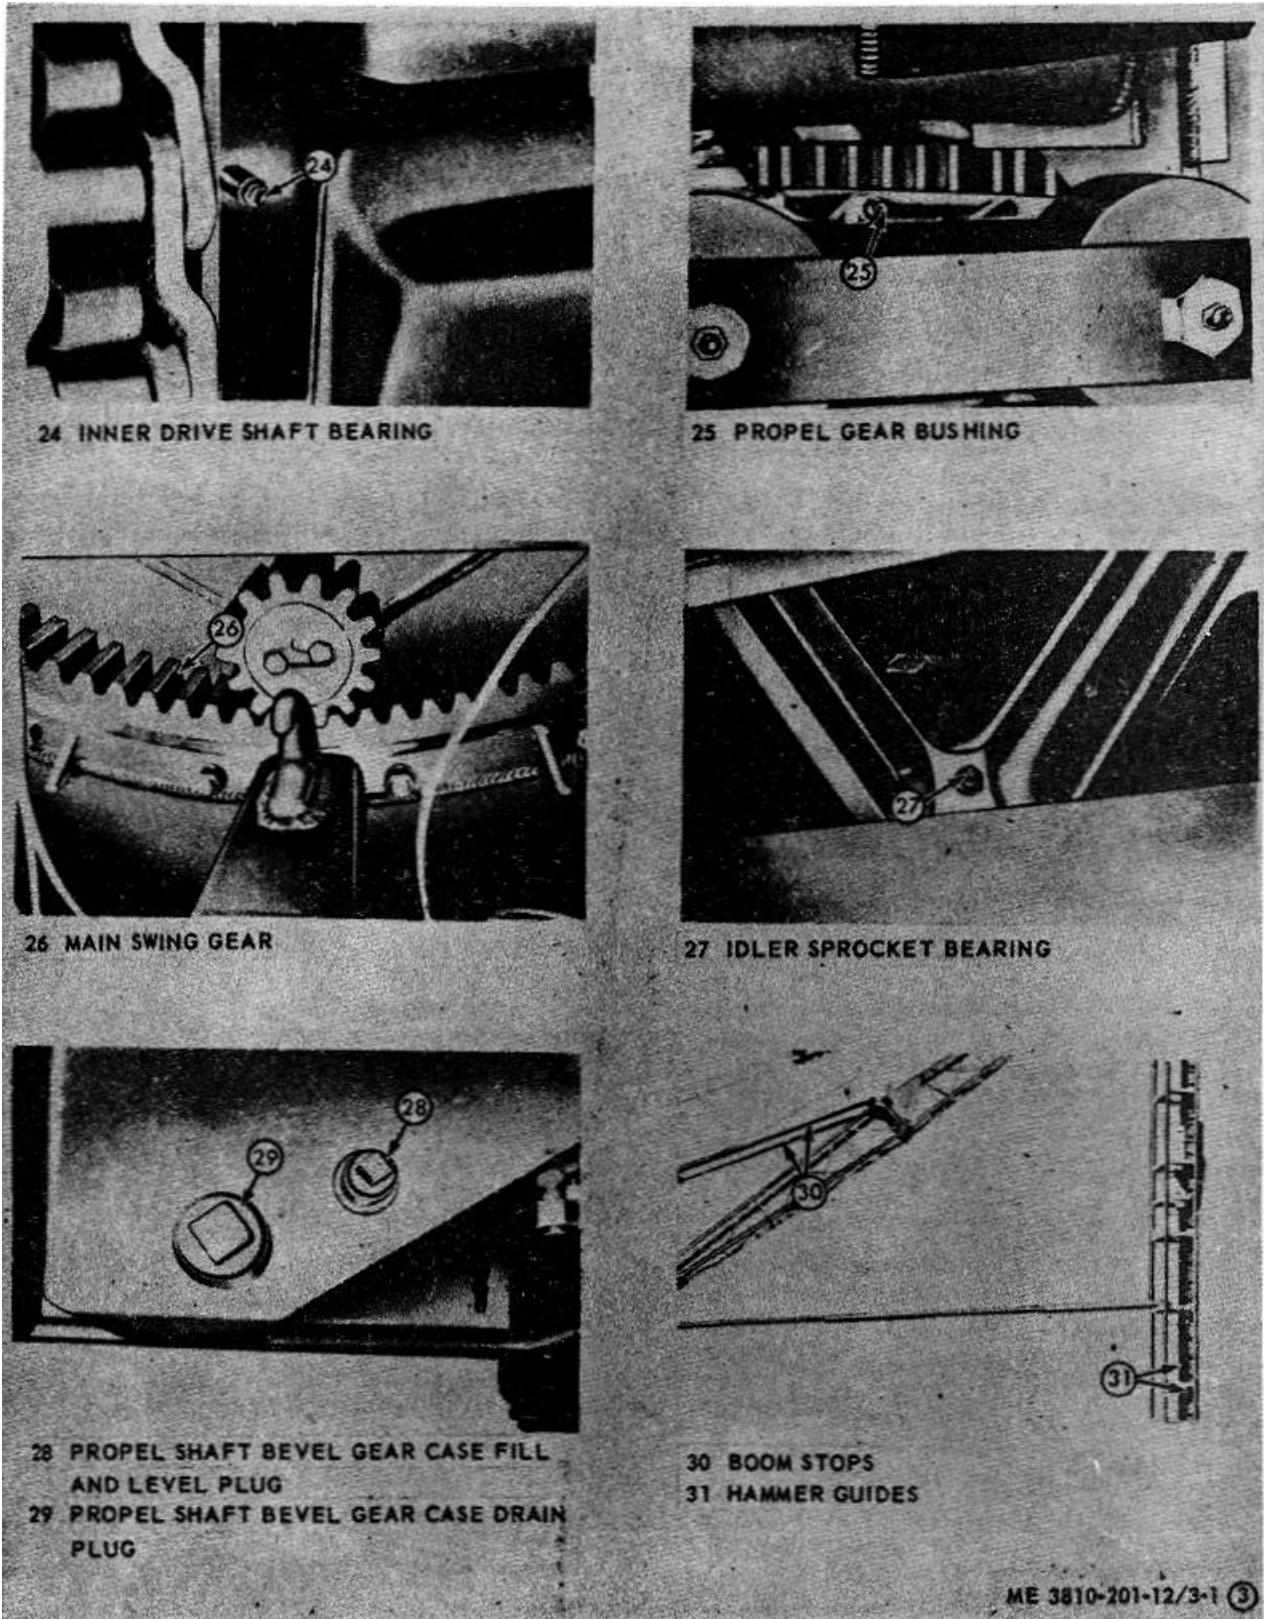

Figure 3-1. Lubricating point identification (sheet 3 of 14).
- b. *Oil Level Check.* Remove two dipsticks (1, fig. 3-1) and check level. Add oil, if necessary, by
- (1) Close drain plugs (3, fig. 3-1).
- (2) Remove the two oil lines from adapter.
- (3) Place container under drain plugs; remove fill plugs; cover opening in tank to prevent dirt entering, then open drain plugs.
- (4) When oil is drained, close drain plugs, then install oil lines on adapters.
- (5) Remove covering placed over fill holes, fill tank with required quantity of proper oil (LO 5-3810-206-12).
- (6) Open drain plugs and allow oil to enter lines to hydraulic cylinders; add more oil in tank, if necessary; then install fill plugs.